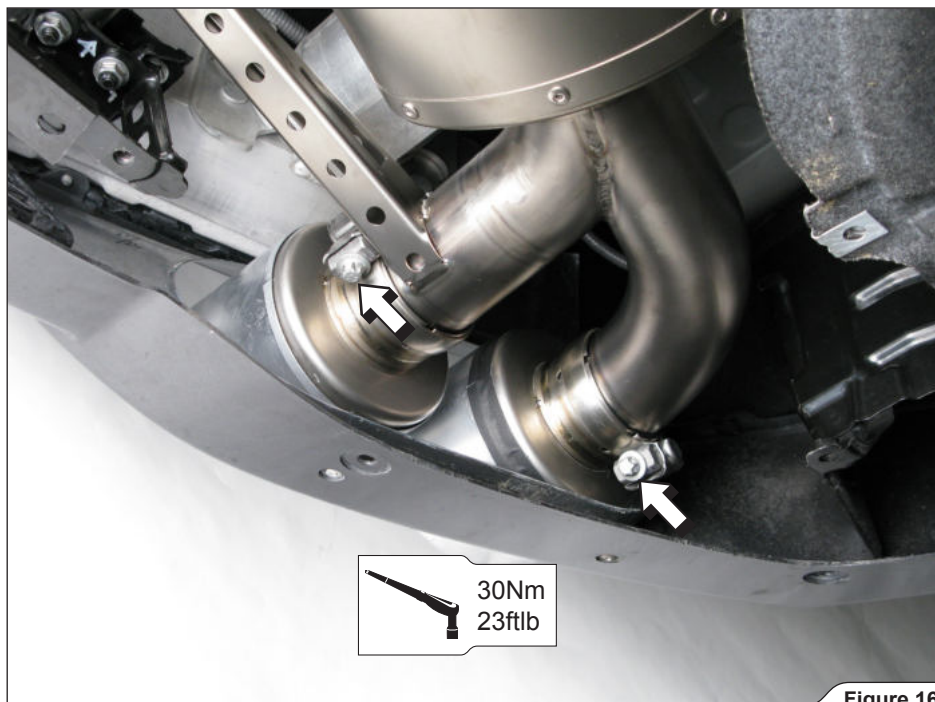

Figure 16
6. Tighten the tail pipe clamps to a specified torque (**Figure 16**). Repeat the process on both sides of the vehicle.